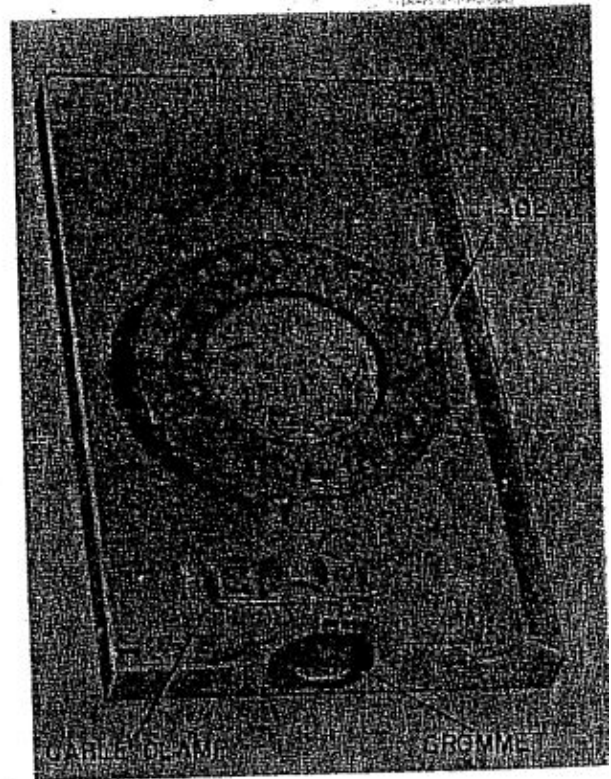

Figure 1-7. Mounting MT-275/ARN-6
e. MOUNTING MT-275/ARN-6. (See figure 1-7.) —Mounting MT-275/ARN-6 is a rectangular shaped aluminum box with an open top into which the control box mounts. A female connector provides electrical connections between the control box male connector plug and the interconnecting cables which enter through an opening in the bottom end of the mounting. Four holes are provided for attaching the mounting to the structure of the aircraft.